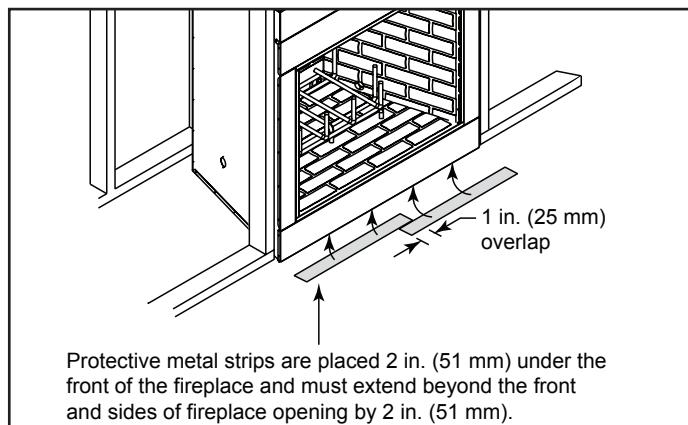

Figure 3.14 Position the Protective Metal Hearth Strips
- Metal strips must extend beyond the front and sides of the fireplace opening by at least 2 in. (51 mm), Figure 3.14.